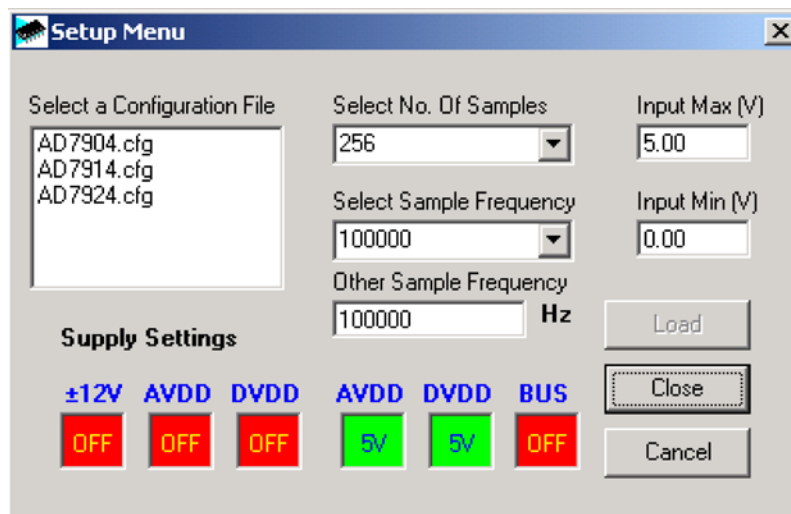

Figure 5. Setup Menu
- **Setup Menu.** Select this option to display the Setup Menu as shown in Figure 5.
The **Setup Menu**, shown in Figure 5, allows you to load the required configuration file for the evaluation board. When the configuration file is loaded, the software acquires detailed information about the evaluation board and the ADC connected to the EVAL-CONTROL-BRD2. This includes information such as the number of bits, maximum sampling rate, output coding, maximum analog input, and power supply requirements.